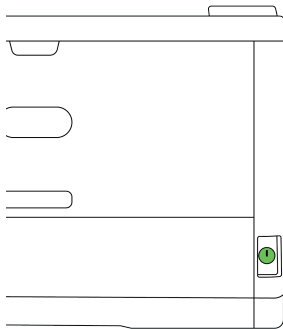

Figure 6-33. Oki printer power button
2. Press and hold the power button on the printer (Figure 6-33).